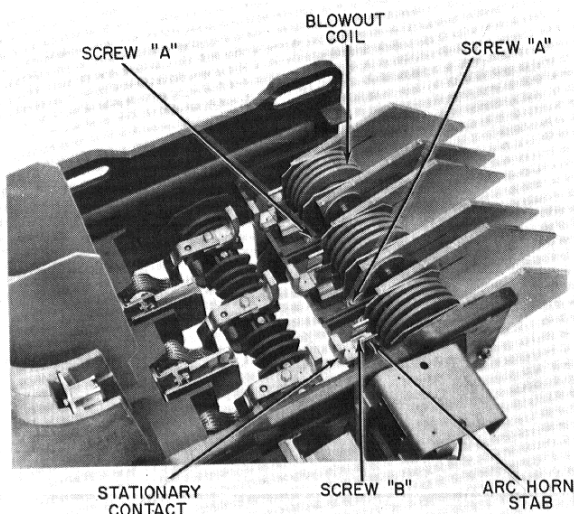

Fig. 36. Blowout base and main shaft assembly
3. Remove the blowout-coil assemblies, arc-horn stabs and stationary tips by removing screws "A" and "B" as shown in Fig. 36, and bolts located below the base, that secure the blowout-coil stab to the base. Care should be taken to observe how parts are assembled so that they can be re-assembled properly on the new base.